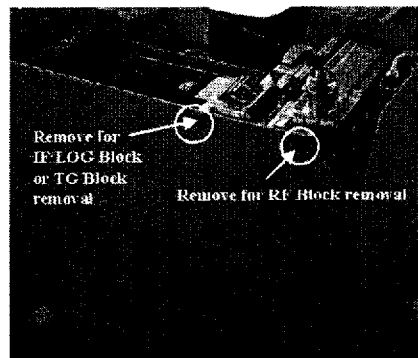
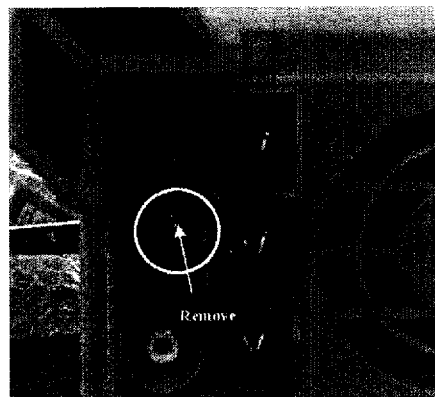

Figure 5-4 Location of Screw on the bottom
Figure 5-5 Location of Screw on the Rear Panel
5. Remove fixing screws of RF Block on the bottom panel and rear panel, refer to Figure 5-4 and Figure 5-5.
2. Remove a screw as shown in Figure 5-4 on the bottom panel.